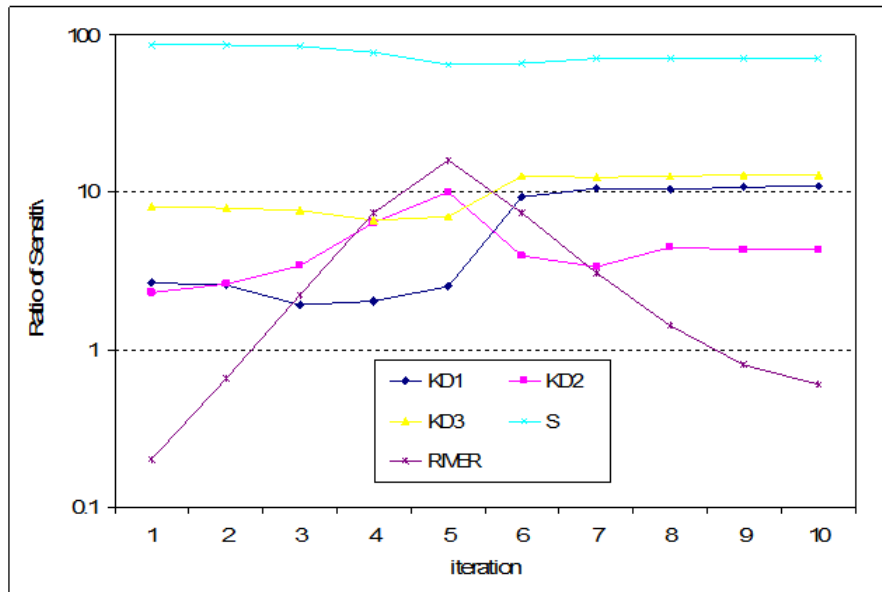

Figure 12.20: Sensitivity ratio of different parameters during the parameter estimation process.
The most sensitive parameter is the storage (S) in Figure 12.20, however, the parameter adjustment is adjusting the storage the least since the least sensitive parameter, the RIVER, determines the final parameter update vector. As can see in the decrease of the objective function, it is not the best thing to do. Whenever the sensitivity of the Rivers increase, the storage becomes more important in the gradient and the objection function declines more significantly.